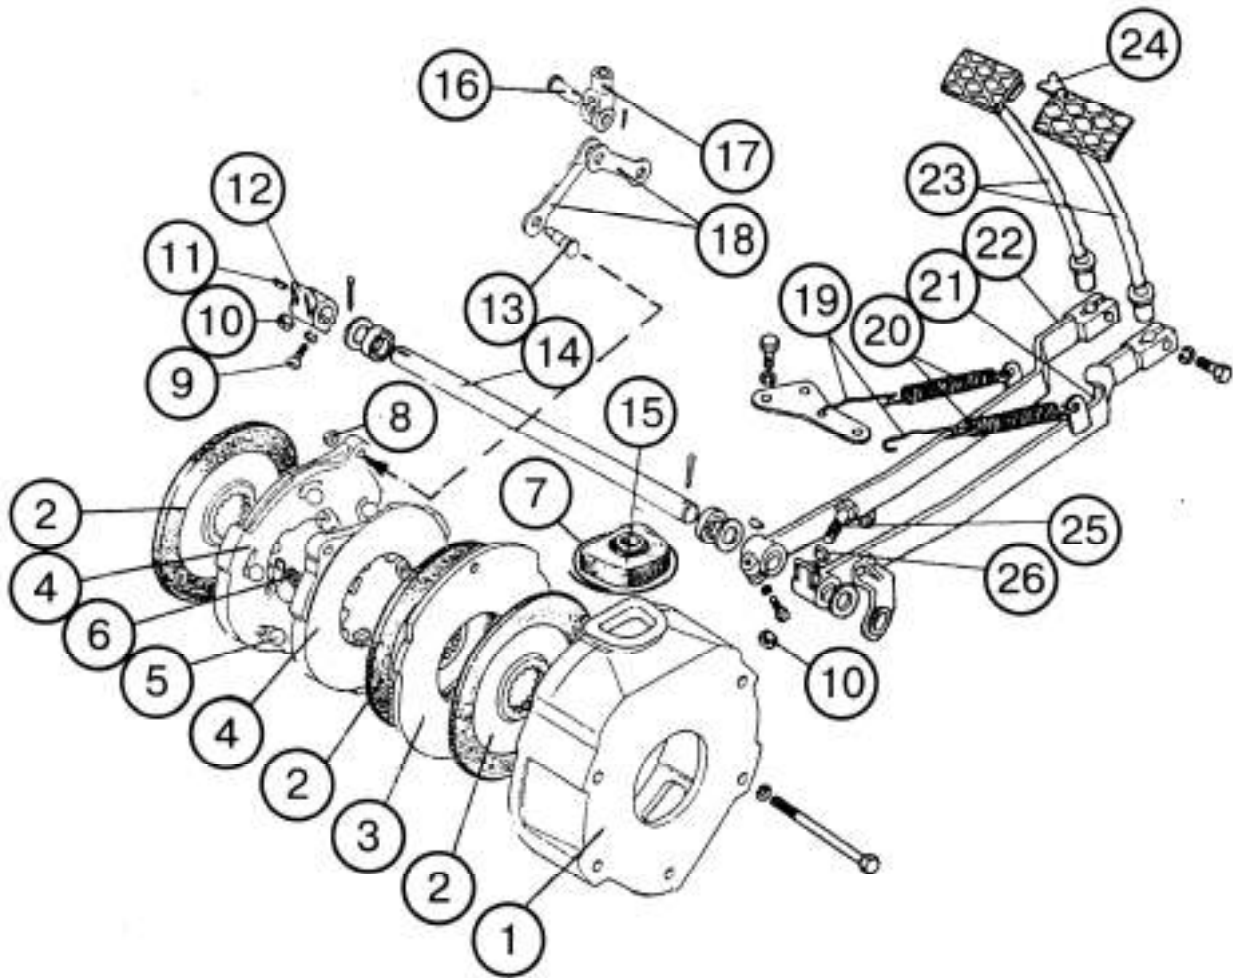

Fig. E-20. Service brakes and their controls (exploded view):
The tractor is equipped with three-disk dry brakes of an increased standard size. The disks of the left- and right-hand brakes (2) (Fig. E-20) are spline-mounted on the rear axle hub drive pinions. The brakes consist of housings (1), friction disks (2), pressure disks (4), balls (5) and contraction springs (6).